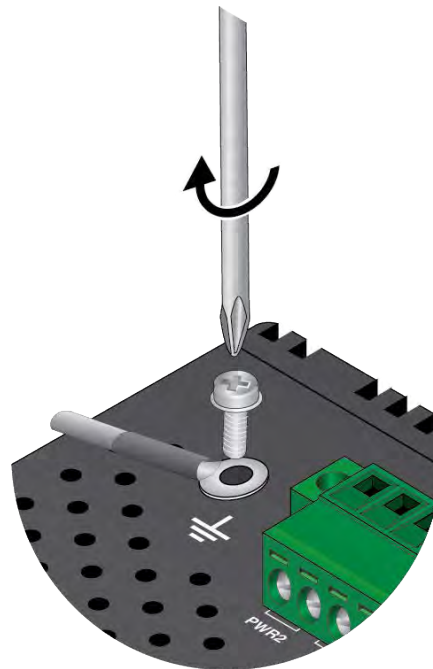

Figure 39. Attaching the Grounding Wire to the Switch
8. Secure the grounding wire to the switch with the grounding screw. Refer to Figure 39.